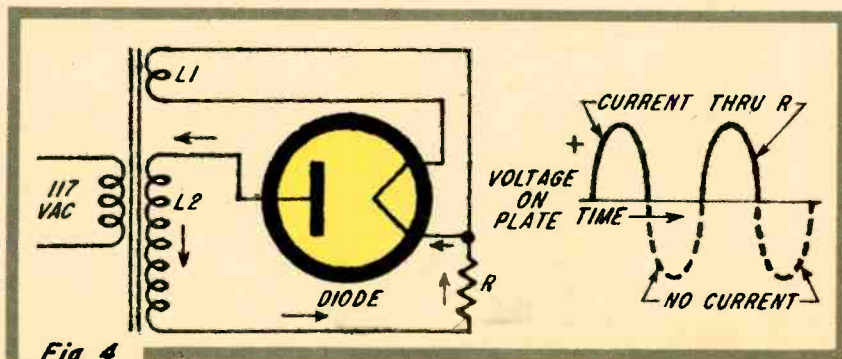

Fig. 4
AC to DC. "So what good is a diode?" you ask. For one thing, a diode is a *rectifier* that can change zig-zagging alternating current (AC) into pulsating, one-way, direct current (DC). Look at Fig. 4. Transformer winding L1 furnishes current to heat the filament of the diode. Winding L2 connects between the plate and filament through the load resistor. The AC induced in this winding makes the plate first positive and then negative sixty times a second with regard to the filament. When the plate is positive, it attracts electrons from the filament and current flows in the direction indicated by the arrow. But what happens when the plate is negative? Not a thing! A negatively-charged plate is great big nothing to electrons, and they stay home. In other words, our diode is an electronic check-valve that permits current to flow freely through it in one direction but stubbornly bars movement in the opposite direction. No wonder the British call a vacuum tube a "valve"!
Fig. 4 shows how pulses of current through the load resistor correspond to excursions of the AC voltage applied to the plate. Now we see why this arrangement is called a *half-wave rectifier*. The tube loafs while its plate is negative, and we get no current output during that half of the AC cycle. We can fix that! We just put another plate in our diode, making it a *duo-diode*, and connect the plates to the ends of a center-tapped transformer winding as shown in Fig. 5. The resulting *full-wave rectifier* puts out current during practically the whole AC cycle. When one plate is negative, the other is necessarily positive, and current is kept flowing through one half or the other of the transformer winding as indicated by the arrows.
The graphs of Fig. 4 and 5 show that the amount of current flowing at any instant depends on the plate voltage at that time. Why don't all the electrons the filament is capable of emitting flock to the plate the instant it becomes slightly positive? The answer is *space charge*. While some of the emitted electrons are attracted to the slightly-positive plate, others just stand around, doing nothing, in the space between the filament and the plate. And electric charge exerts force according to its distance. Therefore, electrons trying to escape from the filament hear the negative "Stay put!" of the space charge much louder than the positive "Come on!" of the more distant plate. Increasing the plate voltage gradually cuts down this distance advantage of the space charge, and more electrons are drawn to the plate. A forthright way to reduce the current-limiting effect of the space charge is simply to move the plate closer to the filament so that there is less room for the space charge to exist!